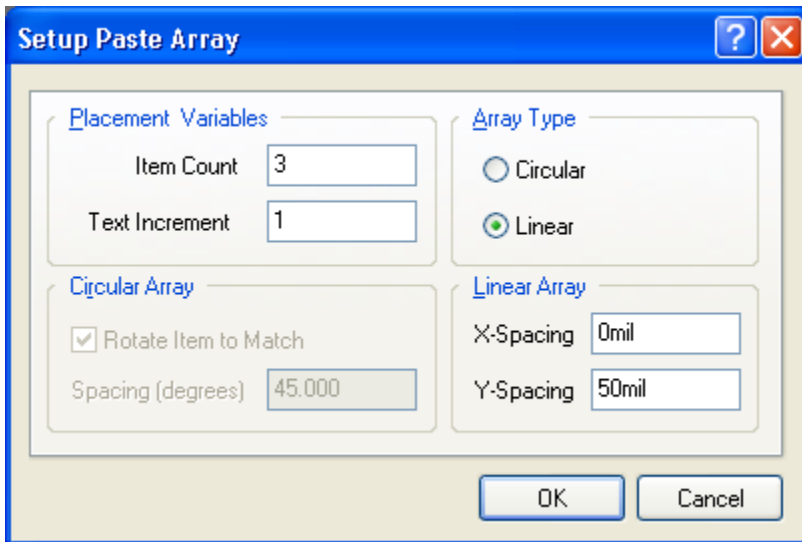

Figure 46. Pasting multiple pads at once.
- Select **Edit » Paste Special** [shortcut: E, A]. The *Paste Special* dialog (Figure 46) displays.